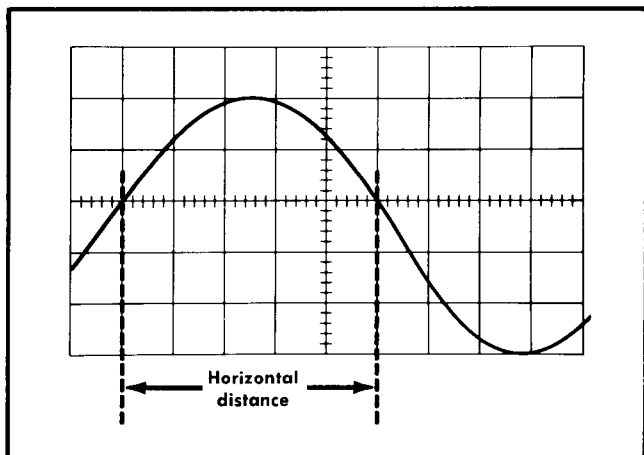

Fig. 2-21. Measuring the time duration between points on a waveform.
5. Set the TIME/DIV switch to the fastest sweep rate that displays less than eight divisions between the time measurement points (see Fig. 2-21). See the topic entitled Selecting Sweep Rate in this section concerning non-linearity of first and last divisions of display.
Example. Assume that the distance between the time measurement points is five divisions (see Fig. 2-21) and the TIME/DIV switch is set to .1 ms with the magnifier off.
Example. The frequency of the signal shown in Fig. 2-21 which has a time duration of 0.5 milliseconds is: